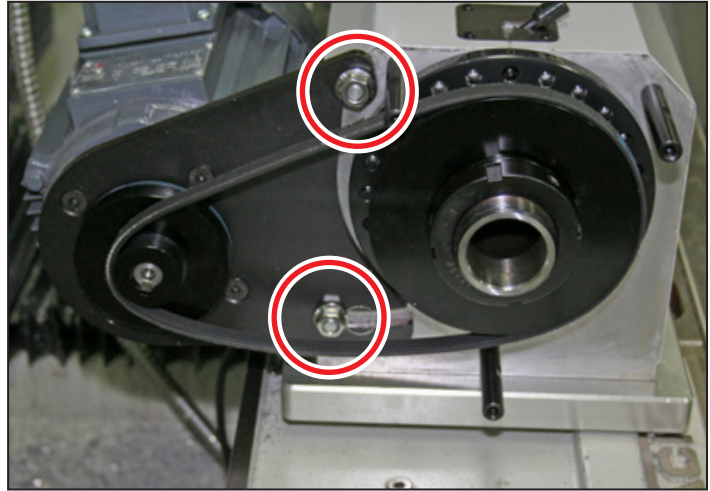

Figure 3.10
3. Using an adjustable wrench, loosen two M8 flange nuts securing motor bracket to RapidTurn; the belt will slacken and can be moved from one pulley to another (see **Figure 3.10**).